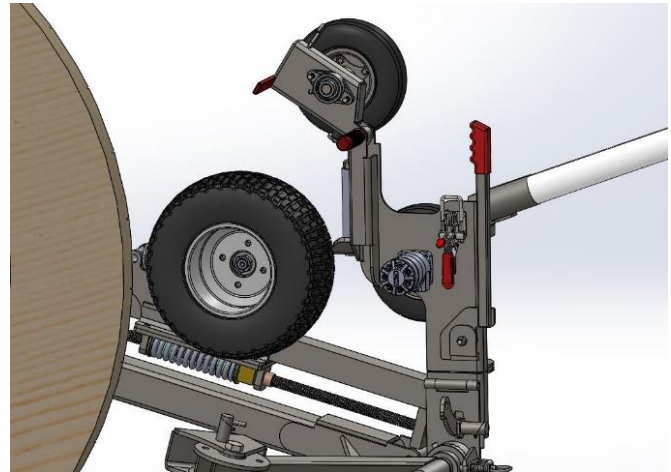

Figure 7
6. Release the draw latch and swivel the idler wheel upwards until it rests on the bumper. **Figure 7**